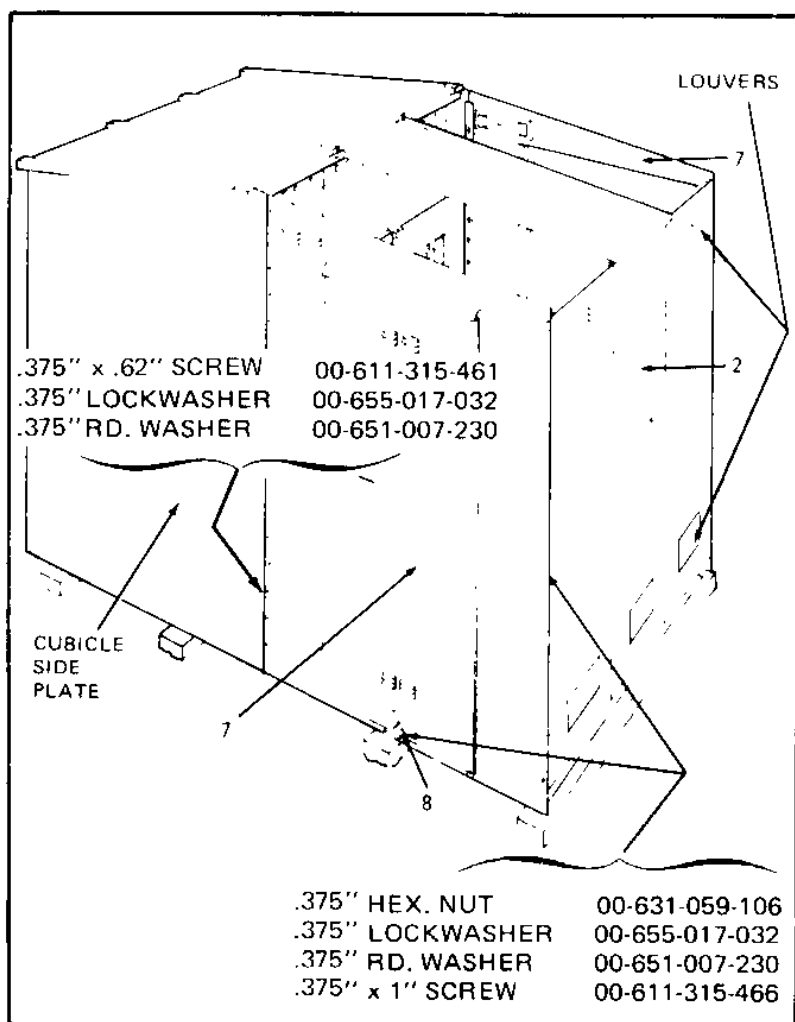

Figure 27. Door Installation – Single Aisle Layout
7. Set door assemblies (7) in place (See Figure 27). Bolt the doors to the aisle wall (2) and to side plate of the cubicle.